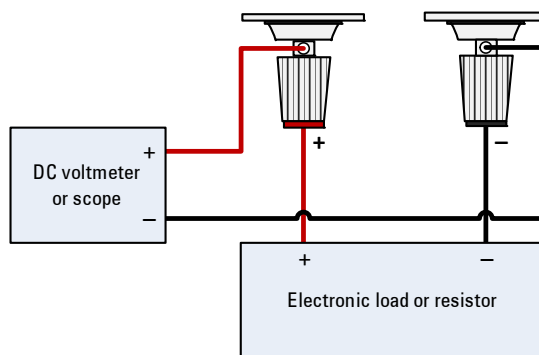

Figure 1-1 Test setup (A)
- 1 Power off the power supply, and connect a multimeter between the (+) and (–) terminals of the output to be tested. Remove the electronic load or resistor block as shown in Figure 1-1, to operate it as an open circuit.
- 1** Power off the power supply, and connect a multimeter between the (+) and (–) terminals of the output as shown in Figure 1-1.
- 1 Power off the power supply, and connect a multimeter between the (+) and (–) terminals of the output to be tested as shown in Figure 1-1.